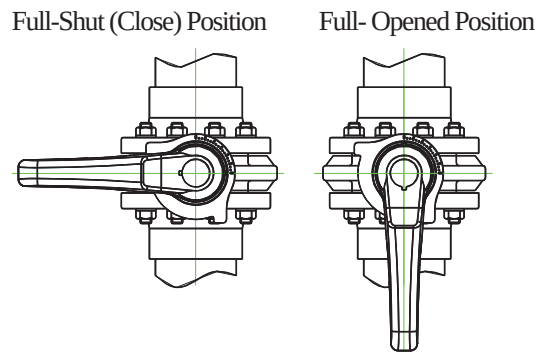

Fig. 6-1
- 2) In case of lever type (40-200 mm {1 1/2"-8"}), the direction of handle is same as the disc as shown in Fig. 6-1.